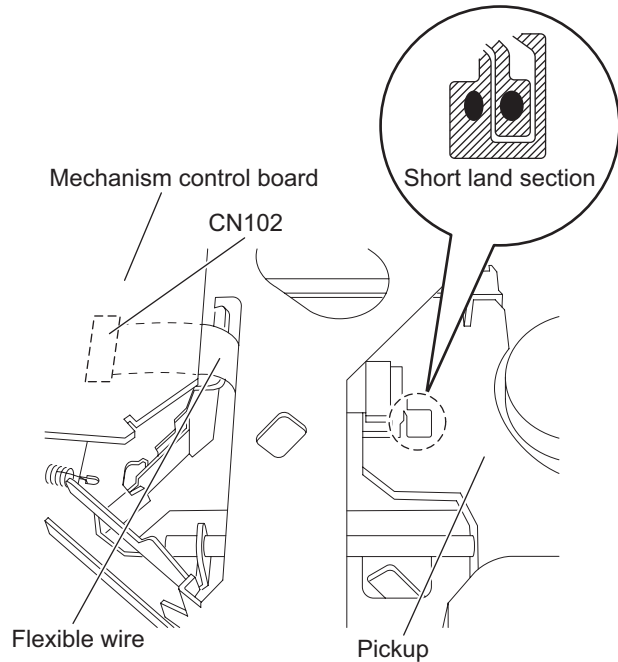

Fig.2
- (3) Solder the short land sections on the pickup. (See Fig.2.)
- Solder the short land sections on the pickup before disconnecting the flexible wire from the connector CN102 on the MECHANISM CONTROL BOARD assembly. If the card wire is disconnected without attaching solder, the pickup may be destroyed by static electricity. (See Fig.2.)